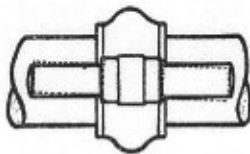

Fig. 4.
- b) Axial Alignment: (Twist) (See fig.4):-